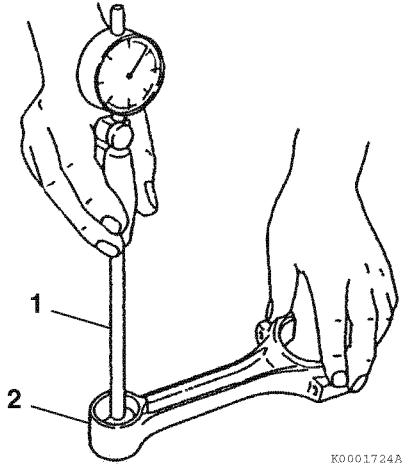

Figure 6-55
1. Measure the wrist pin bushing bore using a bore gauge (1, **Figure 6-55**). Record the measurement. Replace the bushing if not within specifications. If the bushing has been removed, measure the inside diameter of the connecting rod small end (2, **Figure 6-55**). See *Connecting rod* on page 6-12 for specifications.